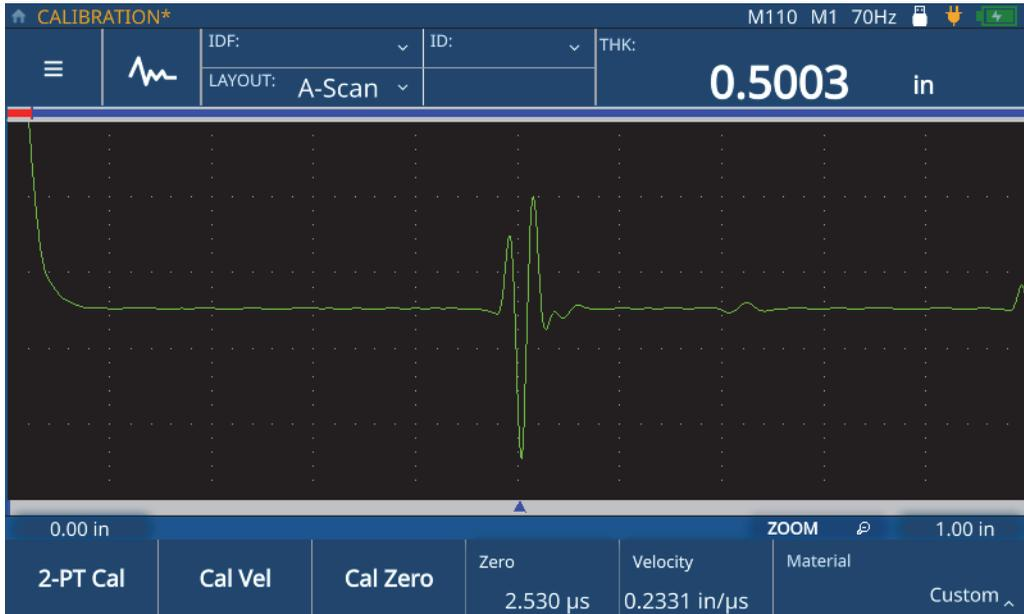

Figure 5-4 Completing Velocity Calibration
6. Tap the **Check-mark** icon to save the value and complete the calibration (see Figure 5-4 on page 43).